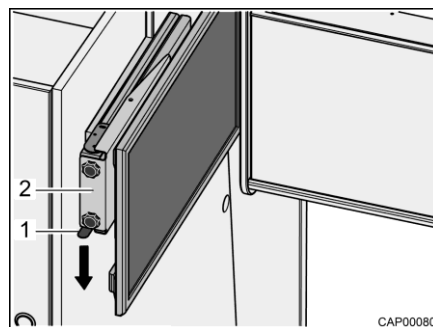

Fig. 31 Pull-out with flat screen
- Press catch spring (Fig. 31,1) downwards and pull pull-out (Fig. 31,2) with flat screen out horizontally towards the centre of the vehicle.
- Push the pull-out (Fig. 31,2) with flat screen horizontally as far as it will go. The catch spring (Fig. 31,1) engages audibly.